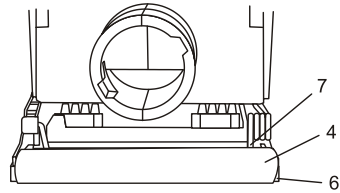

Fig. 3
3. Wrap the sandpaper sheet (4) over backing pad (6) and insert it into the open rear sandpaper clamp (7) (Fig. 3).